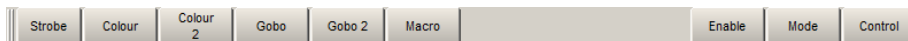

Figure 15.6. The Slot Toolbar for a Studio Spot 575
1. Press the appropriate parameter type key : **Colour** or **Beam**. The Slot Toolbar shows the available parameters; see *Figure 15.6, “The Slot Toolbar for a Studio Spot 575”*.